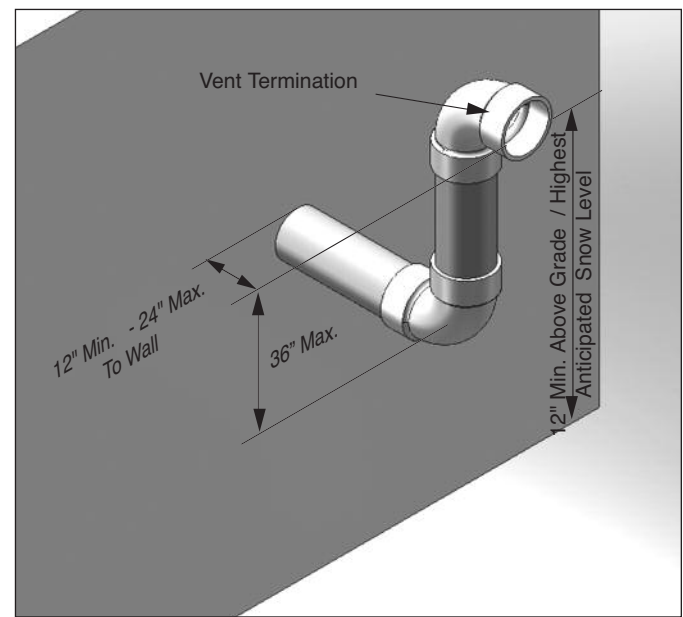

Fig. 29: Category IV - Sidewall Snorkel Termination of Vent Pipe with 90° Elbow Termination
- Using a 90° elbow as shown in Fig. 29 page 26.